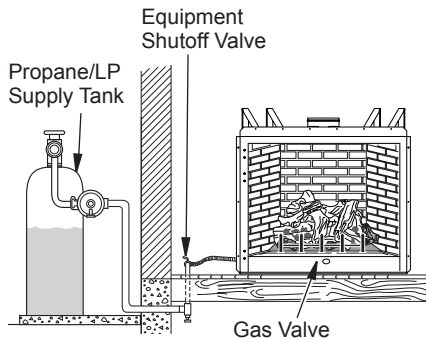
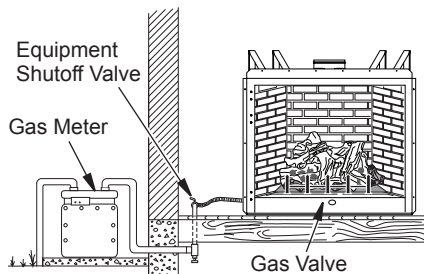

Figure 22 - Checking Gas Joints for Propane/LP Gas Fireplace
Figure 23 - Checking Gas Joints for Natural Gas Fireplace
3. Check all joints from propane/LP supply tank or gas meter to equipment shutoff valve (see Figure 22 or Figure 23). Apply noncorrosive leak detection fluid to all joints. Bubbles forming show a leak.
4. Check all joints from equipment shutoff valve to gas valve (see Figure 22 or Figure 23, page 18). Apply noncorrosive leak detection fluid to all joints. Bubbles forming show a leak. Correct all leaks at once.